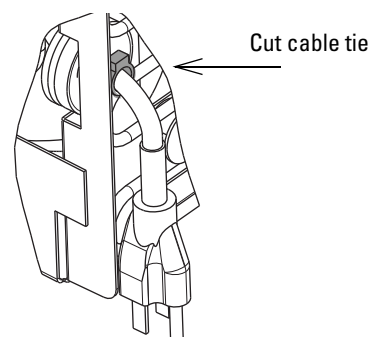

Figure 2: Cut cable tie from line cord (Full line cord length not depicted)
3. Cut the cable tie from the power cord that runs through the refrigeration assembly (Figure 2).